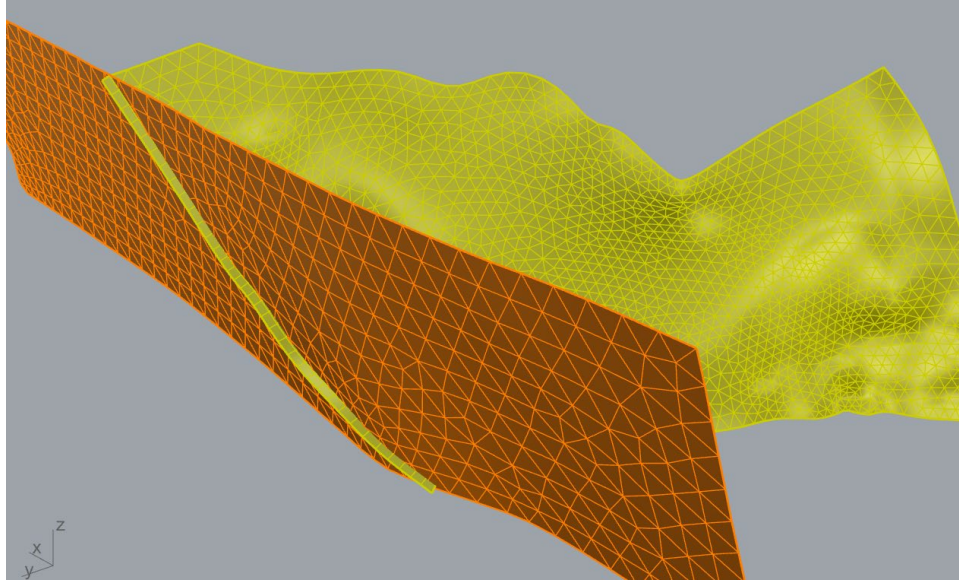

Figure 86: Extension of “Strat1” mesh along the part of the boundary closest to “Fault1”.
27. Turn on only “Strat1” and “Fault1” layers and extend the “Strat1” mesh only along the edge that visually connects to the “Fault1” mesh. Use **GExtend** () → *ExtendSelectedBoundary*: *ExtendLength* = 20, *MeshType* = *Merged*, *Direction* = *LocalTangent*. Additional segments of the boundary can be included in the selection by clicking on them and can be removed when holding **Ctrl** and clicking. Ensure that the extended portion fully intersects and is enclosed within the “Fault1” mesh (as in Figure 86).